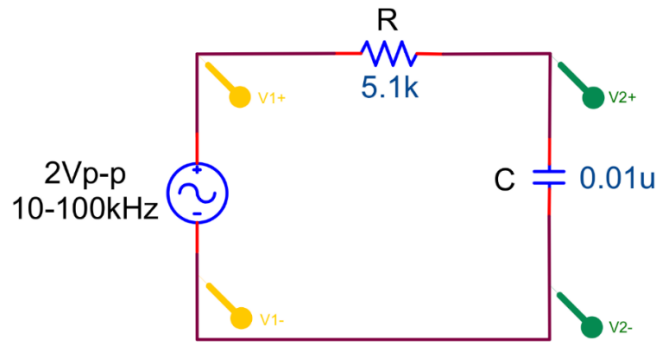

Figure 13.5
1. Construct the circuit of Figure 13.5. Use the oscilloscope to measure the magnitude and phase angle (with respect to the input) of v_2 . Make sure that the input remains at 1V as you vary the frequency. Use your measurements to plot the magnitude and phase angle versus frequency.
1. Use the SPICE AC analysis to plot the magnitude and phase angle of V2 versus frequency for Figure 13.5. Compare these to your experimental results.